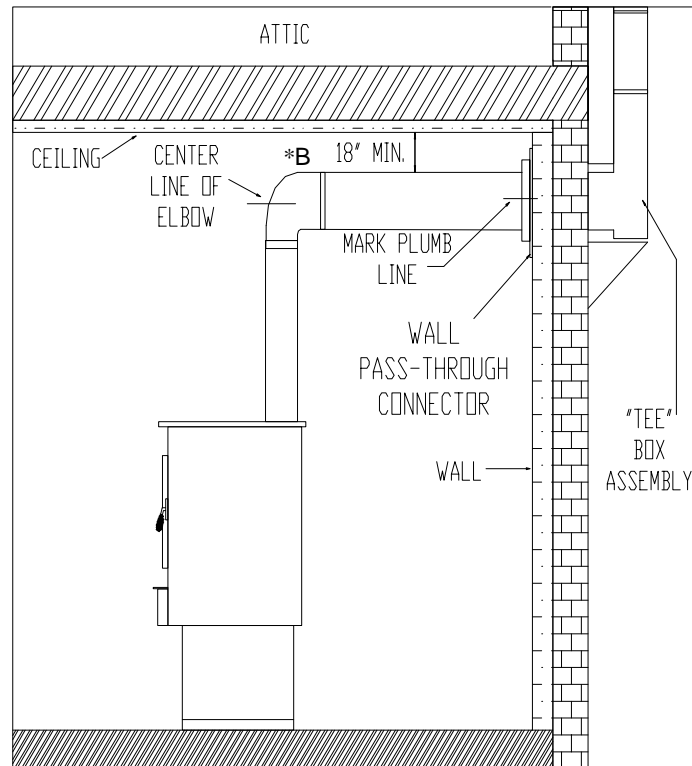

FIGURE 9
- Mark the plumb line on the wall directly behind center of heater. (See Figure 9)